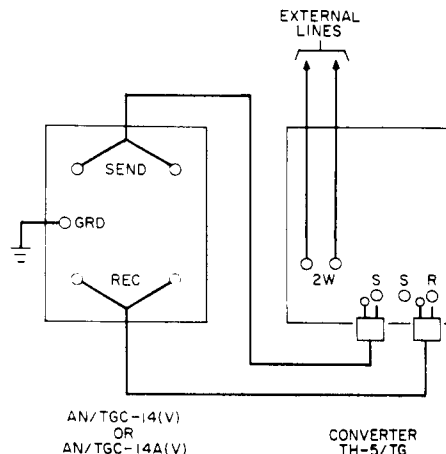

Figure 2-20. External Line Patching, Typical Connection Circuit
- The AN/TGC-14(V) and AN/TGC-14A(V) equipments may be patched to converters using either two or four wire simplex or duplex connections. Determine the circuitry of the converters before making any connections. Figure 2-20 shows the connections to a typical converter circuit using Converter TH-5/TG, which supplies the line current, connected for full-duplex operation (Mode 4).